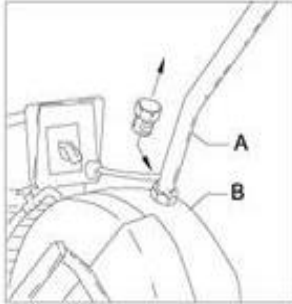

Fig 4.01
- Remove the plastic plug from the saw head (fig. 4.01 B). If so required a lifting hook M20 DIN 580 can be screwed into the hole.
- Check on the level gauge of the saw head whether it contains sufficient oil. If necessary fill up (fig. 4.01, see arrow).